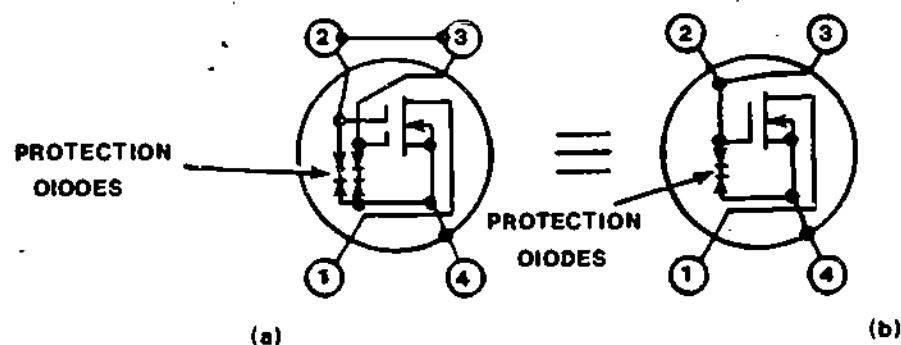

Figure 22
22. Some MOSFETs have built-in gate protection circuits to avoid damage due to excessive voltages. Figure 22 shows an example of internal diode protection circuits placed in the circuit schematics of dual and single-gate MOSFETs.
In Figure 22, the internal protection circuits are made of back-to-back